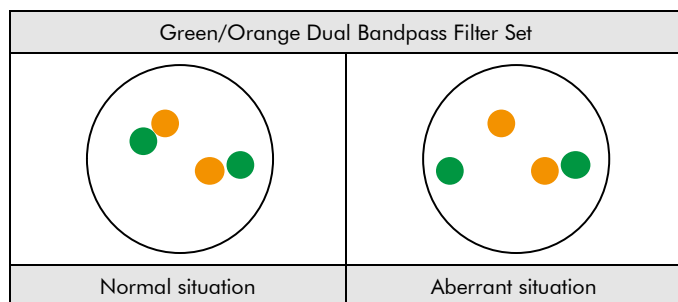

Fig. 2: Expected results in normal and aberrant nuclei
**Normal situation:** In interphases of normal cells or cells without a translocation involving the JAZF1 gene region, two green/orange fusion signals appear (see Fig. 2).
**Aberrant situation:** One JAZF1 gene region affected by a translocation is indicated by one separate green signal and one separate orange signal (see Fig. 2).